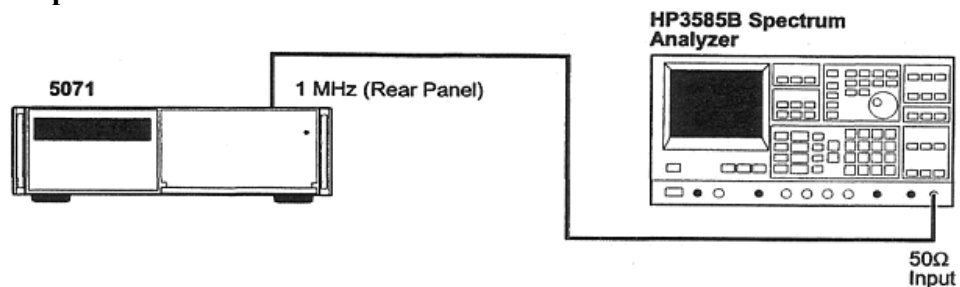

Figure A-5. 1MHz Output Harmonics Distortion Test Setup
- 1 Connect the 5071A 1 MHz output to the 3585B Spectrum Analyzer as shown in Figure A-5. Set the 3585B for 50 Ω input impedance.